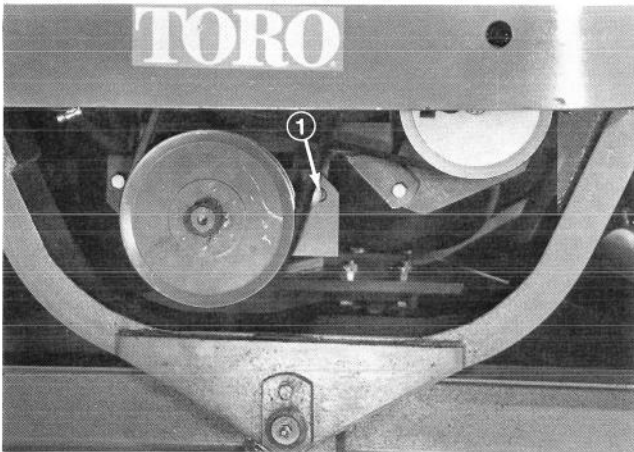

Figure 20 (Gasoline)
8. If either belt needs adjustment, loosen the pump mounting bracket bolts. Use a pry bar on the side of the pump closest to the slotted hole in the pump bracket. Pry the pump downward to achieve proper belt tension and tighten the mounting bolts (Figure 20).